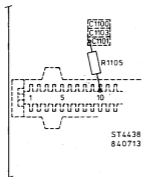

Fig. 9.2.
2. For instruments with a serial no. between DY 01 2411 and DY 01 3810, R1105 is mounted on the solder side of the panel (Fig. 9.2).